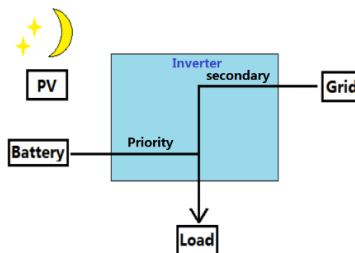

Figure1-6
2. When PV is insufficient, batteries and grid supply power to the load together. (Figure1-6)